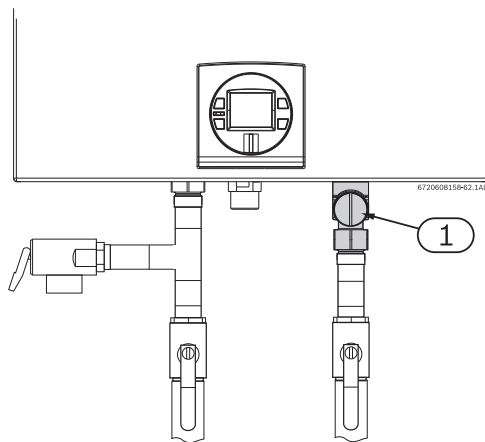

Fig. 31 Plumbing Connections (with shutoff valves) and Pressure Relief Valve
- ▶ Full port shutoff valves should be installed on both the cold water supply and hot water outlet lines to facilitate servicing the heater (see Fig. 31).
the water heater as possible. See Fig. 31. To install the PRV, a suitable fitting connected to an extension on a "T" fitting can be sweated to the hot water line. Support all piping.